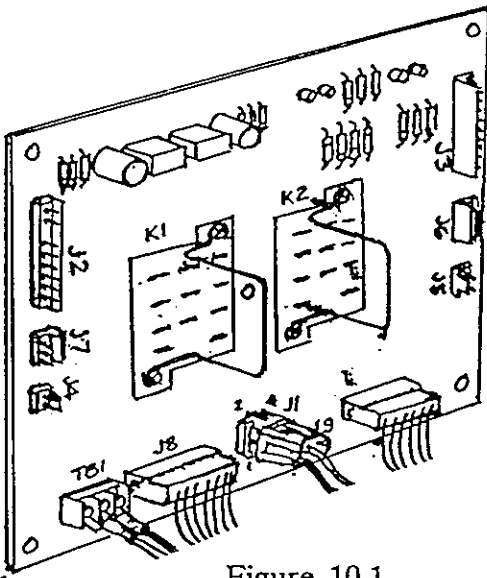

Figure 10.1
STEP 10.1: Check for grounding/shorting by disconnecting low voltage components on circuit board (i.e. relays K1 & K2, and plugs J2, J3, J4, J5, J6, and J7). See Figure 10.1.